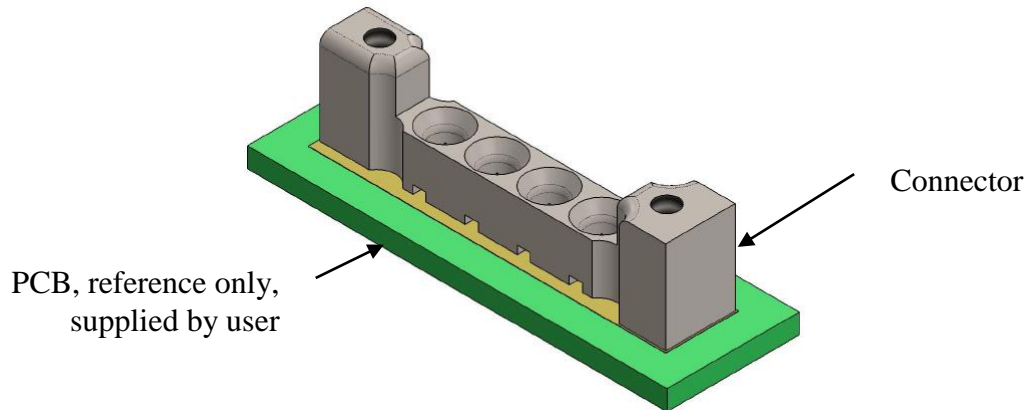

Figure 1: Connector, 4 position, top view
- 3.1. See Figures 1, 2 and 3 for representative views to illustrate Connector and hardware configuration. Views are of 4 position Connector.
- 4.1. Reference Figures 1, 2 and 3.